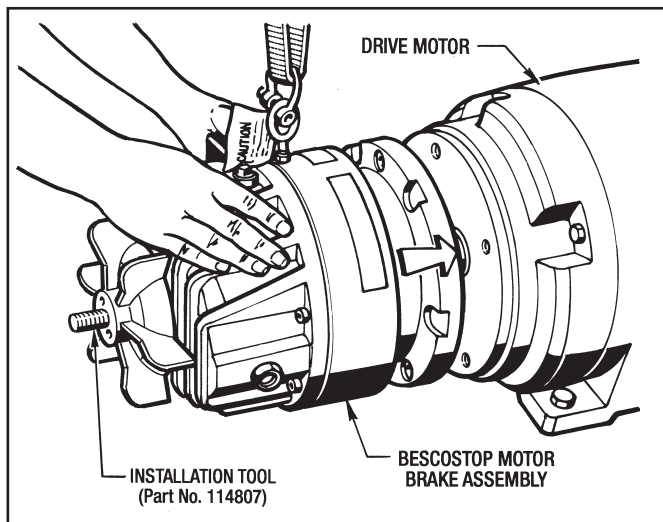

Figure 3.4 - Installing Brake onto Drive Motor
- Remove the (2) Hex Nuts and Handle from the **Installation Tool (#114807)**.
- Attach an overhead hoist and sling to the Brake Assembly and slide it onto the motor shaft. (See Figure 3.4)